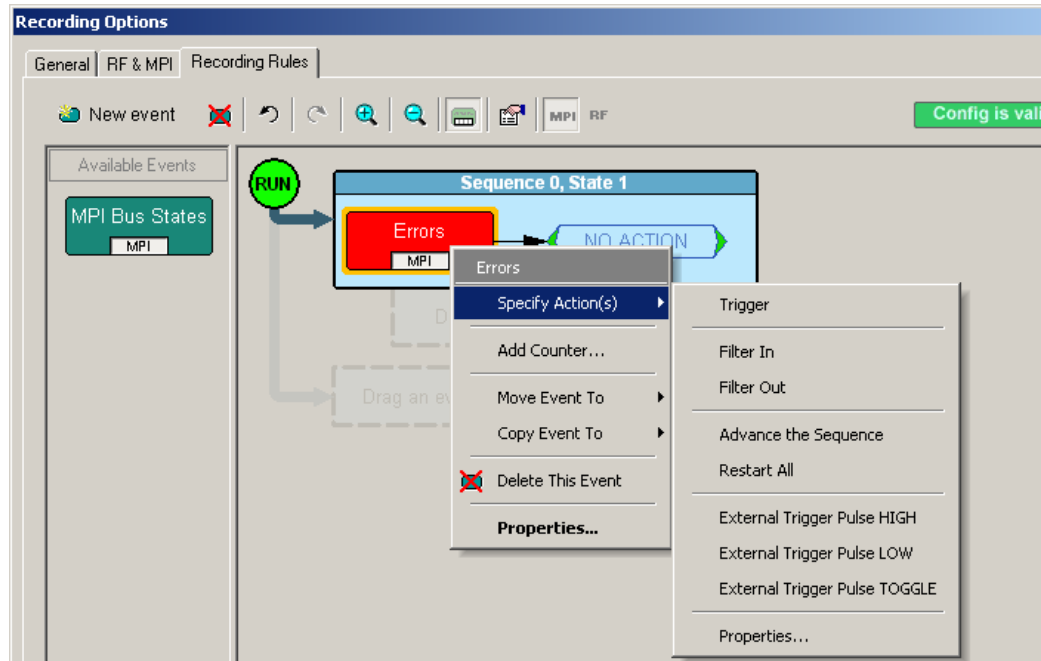

Figure 12.15 Selecting Action From Event Button Pop-Up
Step 1 Right-click the Event button to display a pop-up menu (Figure 12.15).